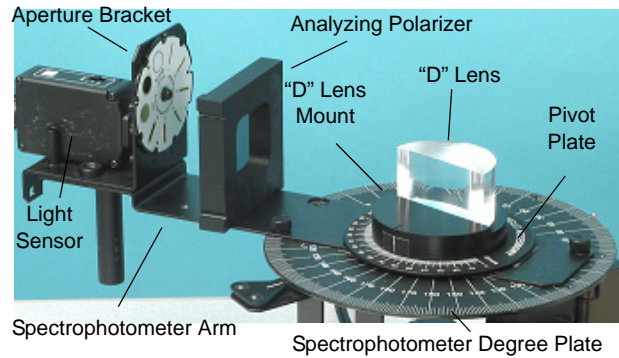

Figure 9: Analyzing Polarizer and “D” Lens
8. The square Analyzing Polarizer (see Figure 9) has its transmission axis marked. Position the Analyzing Polarizer with its label on top and with its axis horizontal.